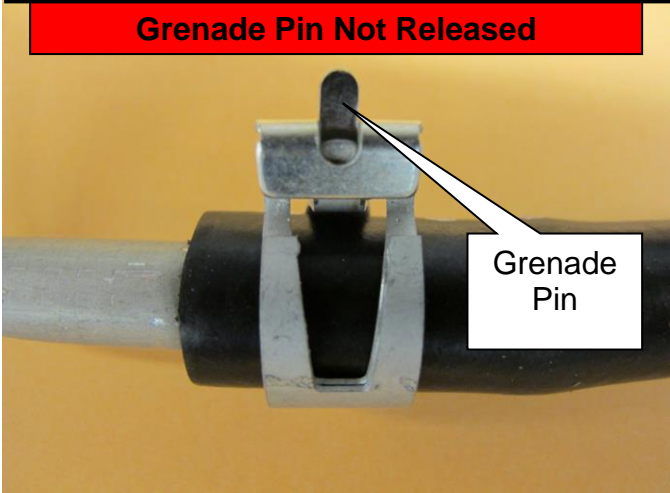

Figure 6
- Grenade pin not released (Figure 6).